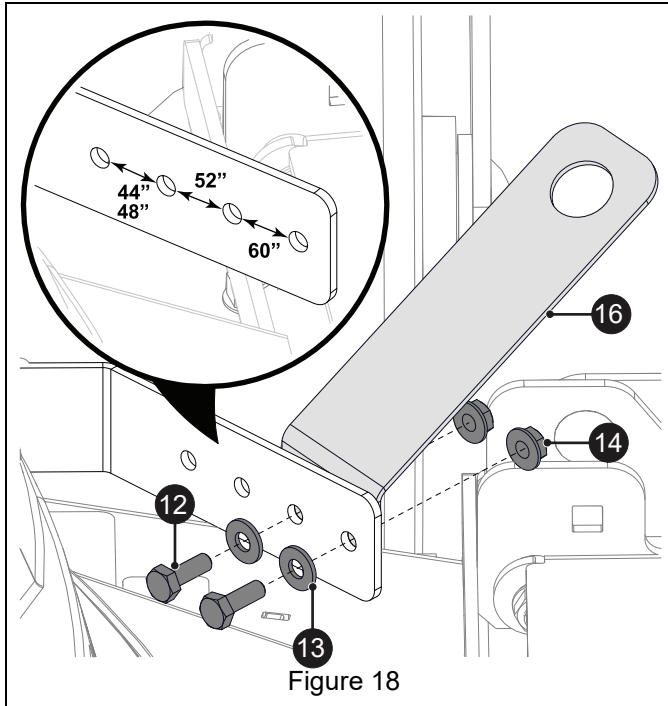

Figure 18
1. Attach rod retainer plate (Item 16) to rod bracket plate with two 1/4" x 3/4" hex bolts (Item 12), two flat washers (Item 13) and two 1/4" locking center flange nuts (Item 14). Mounting point is dependent on deck size. See Figure 18 for correct location.